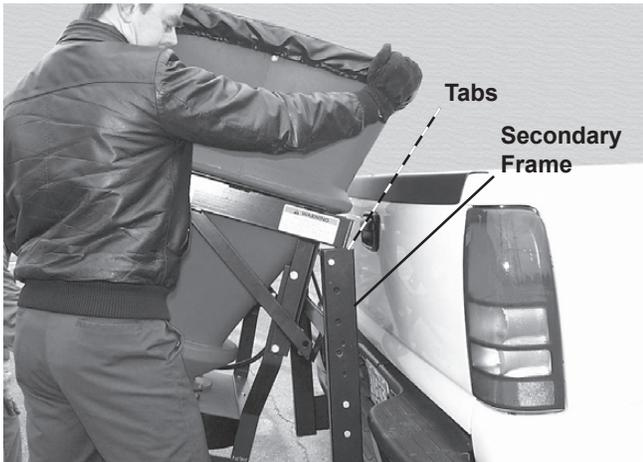

Figure 10
1. Lift the spreader assembly and tip slightly forward. Position tabs on the spreader assembly over the top of the installed secondary frame assembly and lower the spreader assembly. (See Figure 10.)